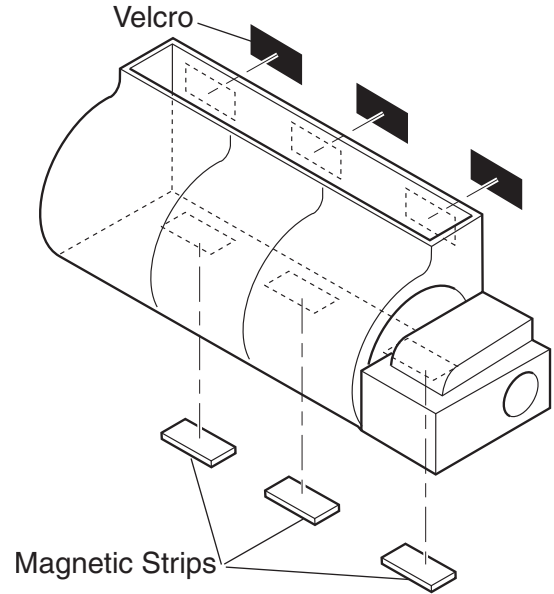

Figure 26 - Attaching Magnetic Strips to Blower
1. Attach three magnetic strips to bottom of the blower. *See Figure 26.*